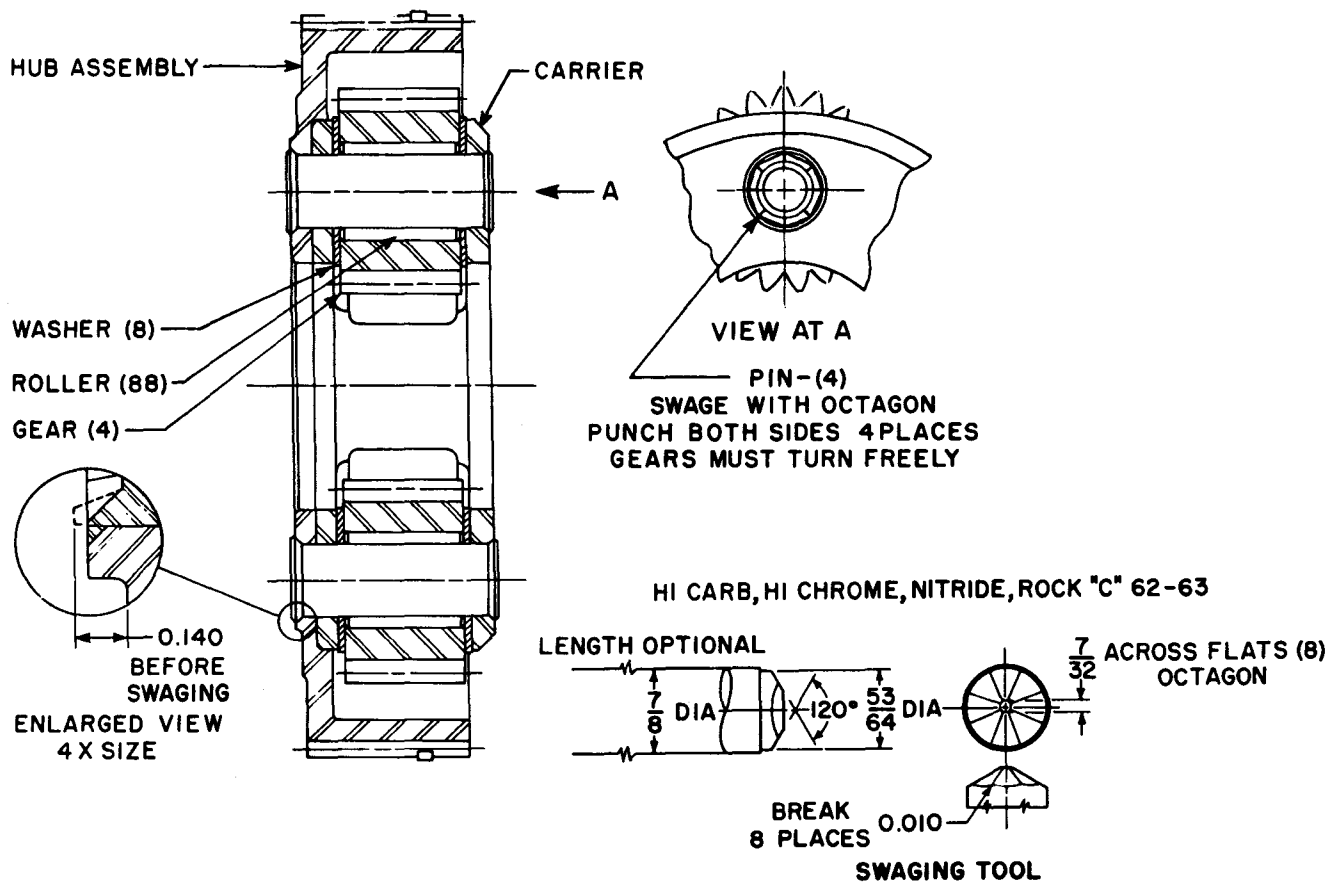

Fig. 6-16. Reverse planetary carrier assembly
a. Disassembly (A, foldout 9 and fig. 6-16)
(1) Position the carrier assembly 7, hub assembly 8 upward, on a drill press table.
(2) Using a 3/4-inch twist drill, centered accurately, drill the end of each pinion spindle 10 to weaken the staking.
c. Assembly (A, foldout 9, and fig. 6-16)
(1) Make a pinion pin alining tool by grinding or turning a chamfer on one end of a 6-inch length of 3/4-inch, cold-rolled steel shafting.
(2) Coat the bore of each pinion 12 (A, foldout 9) with oil-soluble grease.
(3) Holding the alining tool in one hand, install one thrust washer 11 and then a pinion 12 onto the alining tool.
(10) Press new pinion spindles 10 through the carrier, pinions, and hub assembly until they project 0.140 inch from the hub assembly (see inset detail of fig. 6-16).
(11) Stake both ends of the spindles into the countersinks of the carrier and the hub. Refer to fig. 6-16 for the details of fabricating the staking punch.